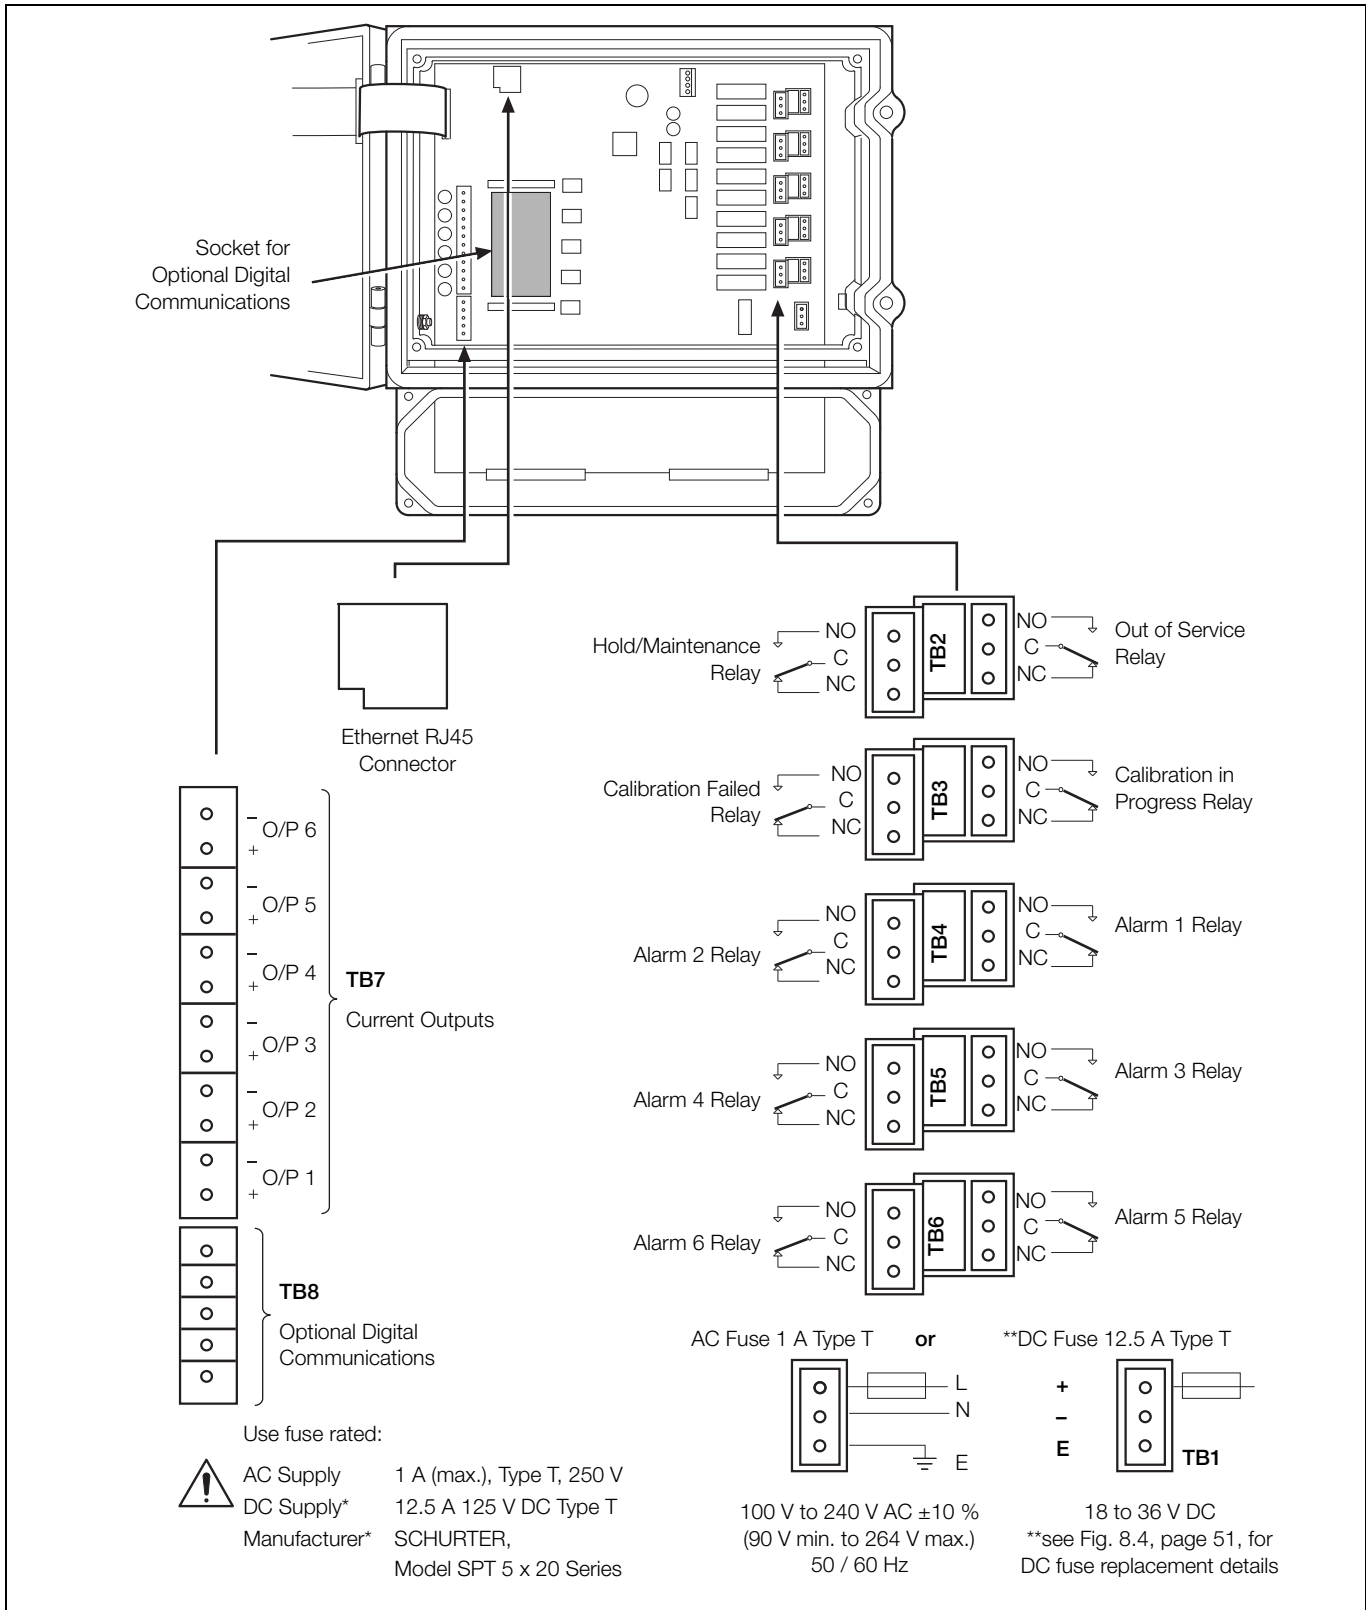
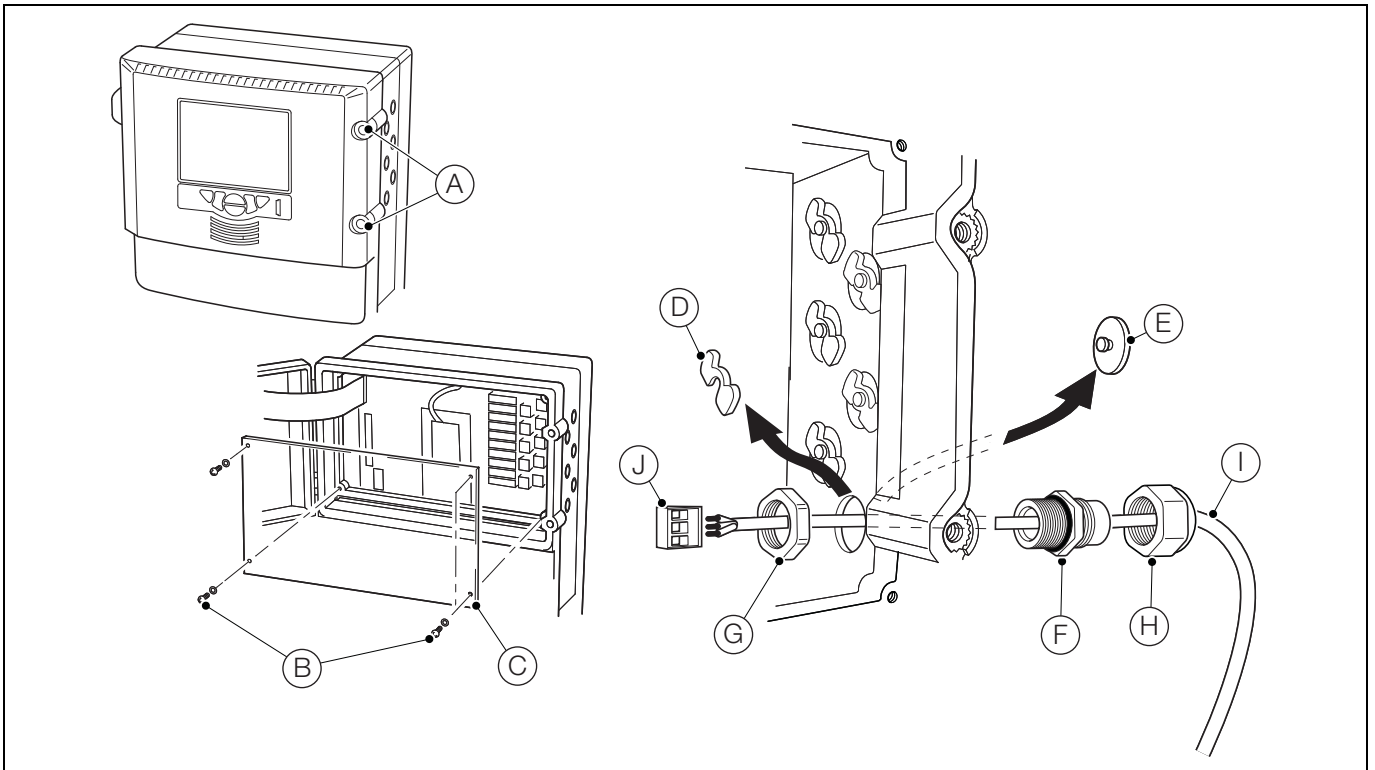
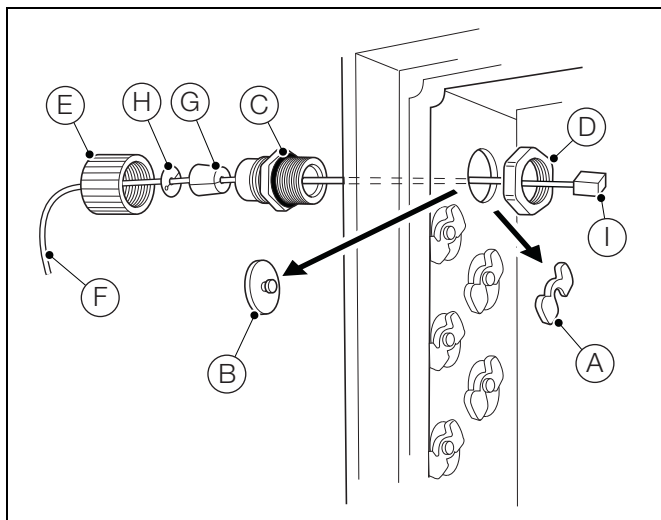

Fig. 4.8 Connections Overview
Fig. 4.9 Accessing and Making Electrical Connections
Fig. 4.10 Ethernet Connections
- Ensure the correct fuses are fitted – Fig. 4.8, page 18, for fuse details.
- Application board connection labels for the terminal blocks are identified in Fig. 4.8, page 18.
Referring to Fig. 4.9:
1. Turn door retaining screws (A)  $\frac{1}{4}$  turn counter-clockwise and open the electronics section door.
2. Using a cross-head screwdriver, remove 4 screws (B) and remove transparent cover plate (C).
3. For each cable entry required, slide retaining clip (D) off blanking plug (E) and remove the plug.
4. Fit cable gland (F) and secure using nut (G).
5. Remove gland nut (H) and feed cable (I) through it.
6. Feed the cable through cable gland (F) and into the electronics section enclosure.
7. Remove each connection plug (J) and, using a small flat-bladed screwdriver, make connections to the plug. Ensure wires are connected to the correct terminals – see Fig. 4.8, page 18.
9. Tighten gland nut (H) for each connection made.
11. Replace transparent cover plate (C) and secure with 4 screws (B).
12. Close the electronics section door and turn door retaining screws (A)  $\frac{1}{4}$  turn clockwise to secure.
1. Referring to Fig. 4.9:
- a. Turn door retaining screws (A) 1/4 turn counter-clockwise and open the electronics section door.
- b. Using a cross-head screwdriver, remove 4 screws (B) and remove transparent cover plate (C).
2. Referring to Fig. 4.10:
- a. Slide retaining clip (A) off blanking plug (B) and remove plug.
- b. Fit cable gland (C) and secure using nut (D).
- c. Remove gland nut (E) and feed cable (F) through it.
- d. Fit split-bush (G) and split-washer (H) to cable (F).
- e. Feed the cable through cable gland (C) and into the electronics section enclosure.
- f. Plug RJ45 connector (I) into the RJ45 socket on the application board (see Fig. 4.8, page 18 for location details) and tighten gland nut (E).
3. Referring to Fig. 4.9:
- a. Replace transparent cover plate (C) and secure with 4 screws (B).
- b. Close the electronics section door and turn door retaining screws (A) 1/4 turn clockwise to secure.